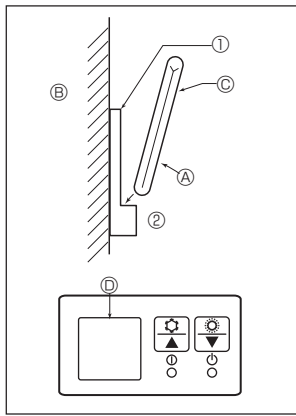
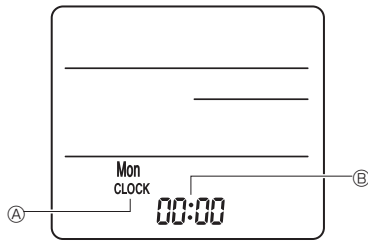

Fig. 6-7
Fig. 6-8
2) Installation method (Fig. 6-7)
- ① Attach the remote controller holder to the desired location using 2 tapping screws.
- ② Place the lower end of the controller into the holder.
3) Setting (Clock setting) (Fig. 6-8)
- ① Insert batteries or press the **CLOCK** button with something sharp. [CLOCK] Ⓐ and [:] Ⓑ blinks.
- ② Press the **RESET** button with something sharp.
- ③ Press the **↓** button to set the time. Press the **DAY** button to set the Day.
- ④ Press the **CLOCK** button with something sharp at the end. [CLOCK] and [:] lighted.